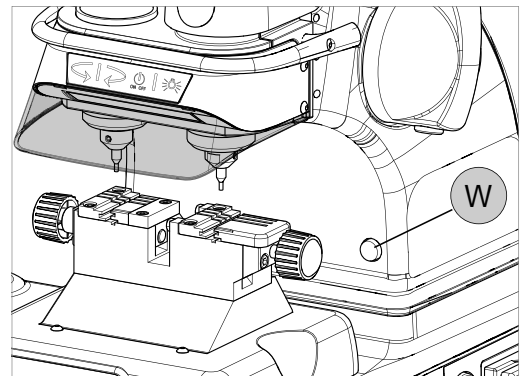

Fig. 13
There is a warning light (W) on the right-hand part of the machine front (behind the clamps unit (Fig. 13).